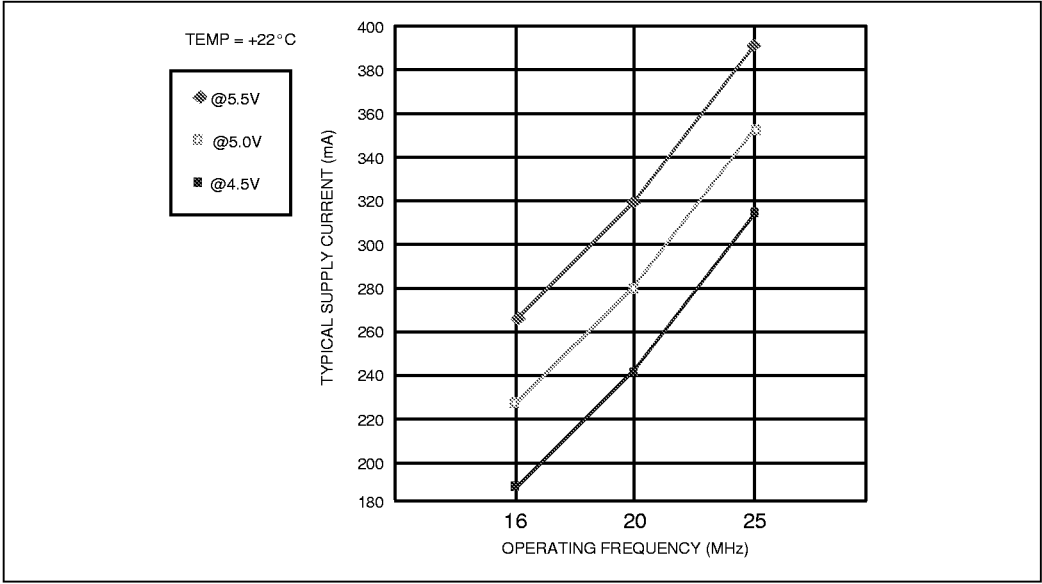
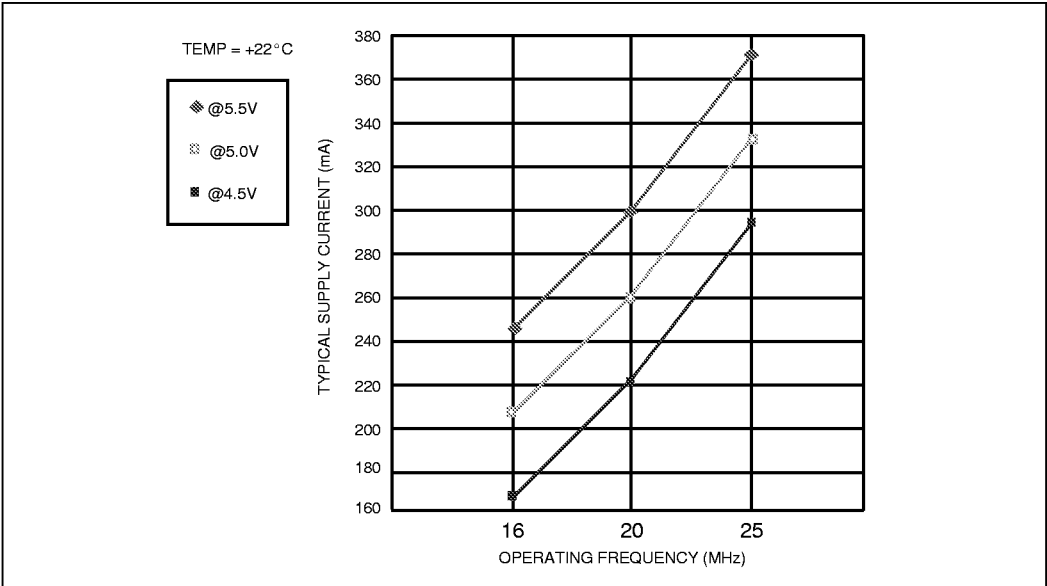
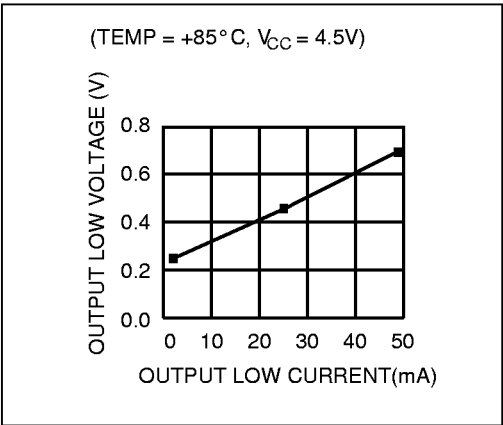

Figure 7. Typical Current vs. Frequency (Room Temp)
Figure 8. Typical Current vs. Frequency (Hot Temp)
Figure 9. Worst-Case Voltage vs. Output Current on Open-Drain Pins
Figure 7 shows typical supply current requirements over the operating temperature range of the processor at supply voltage ( $V_{CC}$ ) of 5 V. Figure 8 and Figure 9 show the typical power supply current ( $I_{CC}$ ) that the 80960MC requires at various operating frequencies when measured at three input voltage ( $V_{CC}$ ) levels and two temperatures.
- Measured at worst case frequency, VCC and temperature, with device operating and outputs loaded to the test conditions in Figure 12 and Figure 13. Figure 7, Figure 8 and Figure 9 indicate typical values.